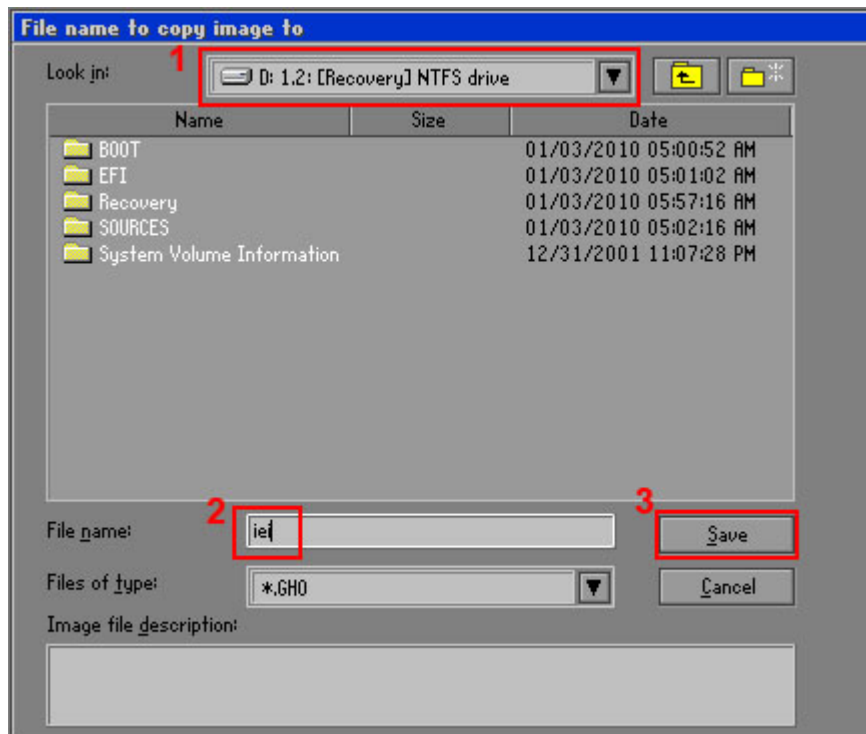

Figure A-13: File Name to Copy Image to
Step 7: Select **1.2: [Recovery] NTFS drive** and enter a file name called **iei** (Figure A-13). Click **Save**. The factory default image will then be saved in the selected recovery drive and named IEI.GHO.